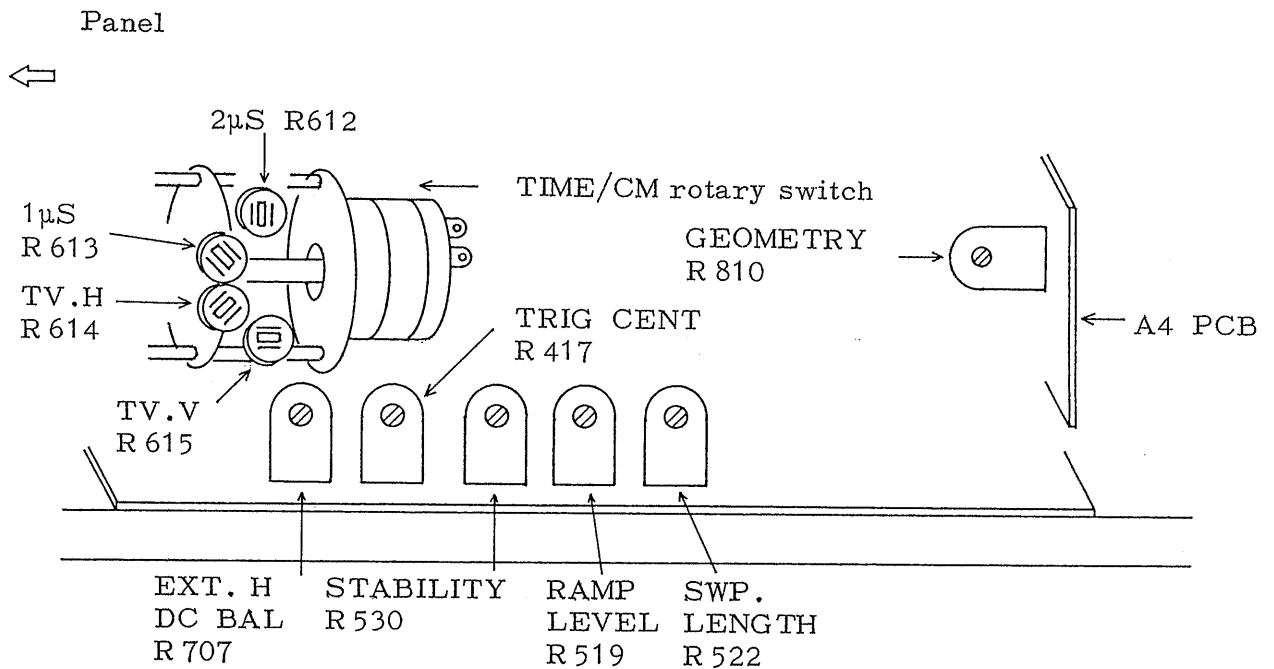

Fig. 5-5
- (4) As with (3) above, adjust the 2 μ S and 1 μ S ranges by turning semi-fixed resistor R612 and R613 on the TIME/CM rotary switch (Refer to Fig. 5-5).
- (5) Adjust the TV.H and TV.V ranges by turning R614 and R615 on the TIME/CM rotary switch until two cycles of vertical and horizontal video signal waveforms appear on the screen respectively.
Adjust SWP. LENGTH semi-fixed resistor R522 (Refer to Fig. 5-5) so that amplitude of the trace is 10.5cm in the 1mS range.